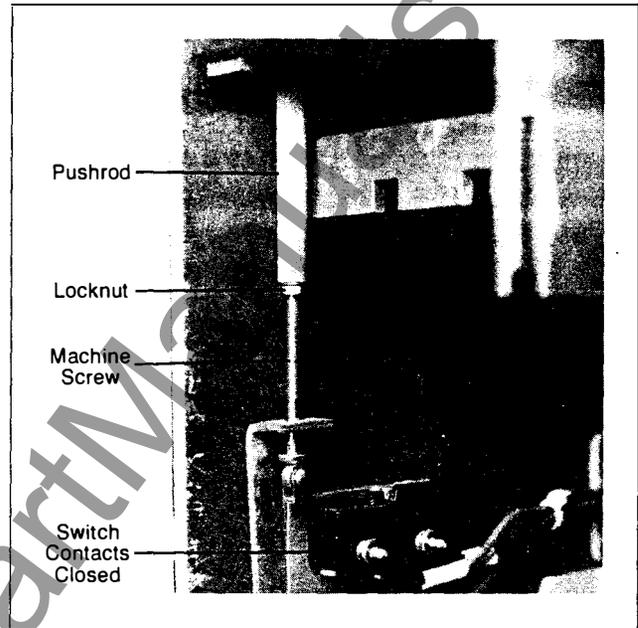

Figure 11. Adjustment of Trip Mechanism in Deactivated Position
4. Referring to **Figure 11**, loosen the machine screw which threads into the pushrod and adjust outward (lengthen) until the micro-switch contacts just close. Then adjust outward one additional full turn and tighten the locknut.